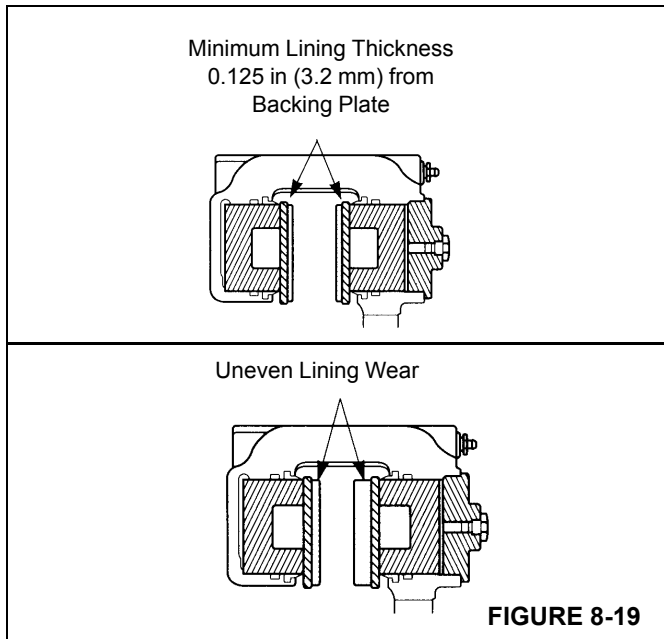

FIGURE 8-19
- Lining Wear. Replace the linings when the thickness of the lining is less than 0.125 in (3.2 mm) from the back plate (Figure 8-19).
- Lining Wear Not Even. Replace the linings if the thickness of the two linings is significantly different. Check the pistons for correct operation. Replace the piston and/or housing if a piston is cocked in the bore. Check that the disc surface is flat and parallel to the linings (Figure 8-19).